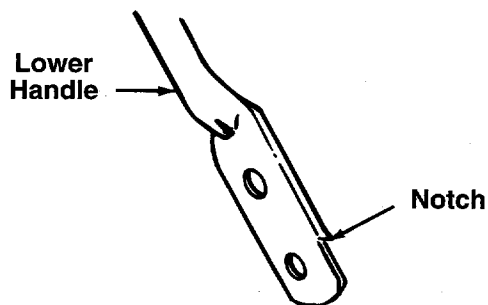

FIGURE 13.
4. Turn the lower handle around so the notches on the bottom of the lower handle are facing forward as shown in figure 13. Reassemble, placing the bottom holes in the handle over the weld pins in the handle mounting bracket.